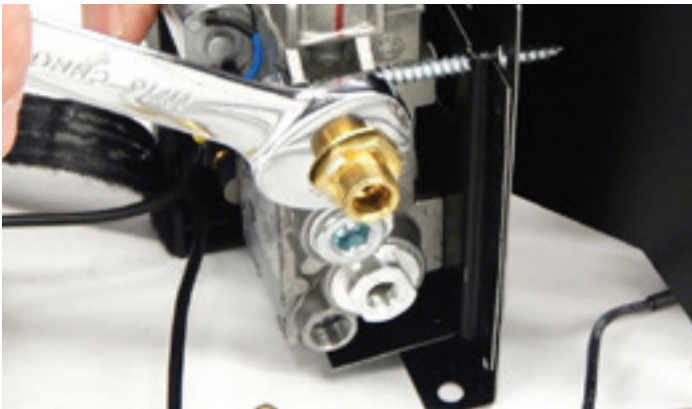

Figure 13
14. Remove the fitting from the valve outlet with 11/16" wrench. Save the fitting. **See Figure 13.**